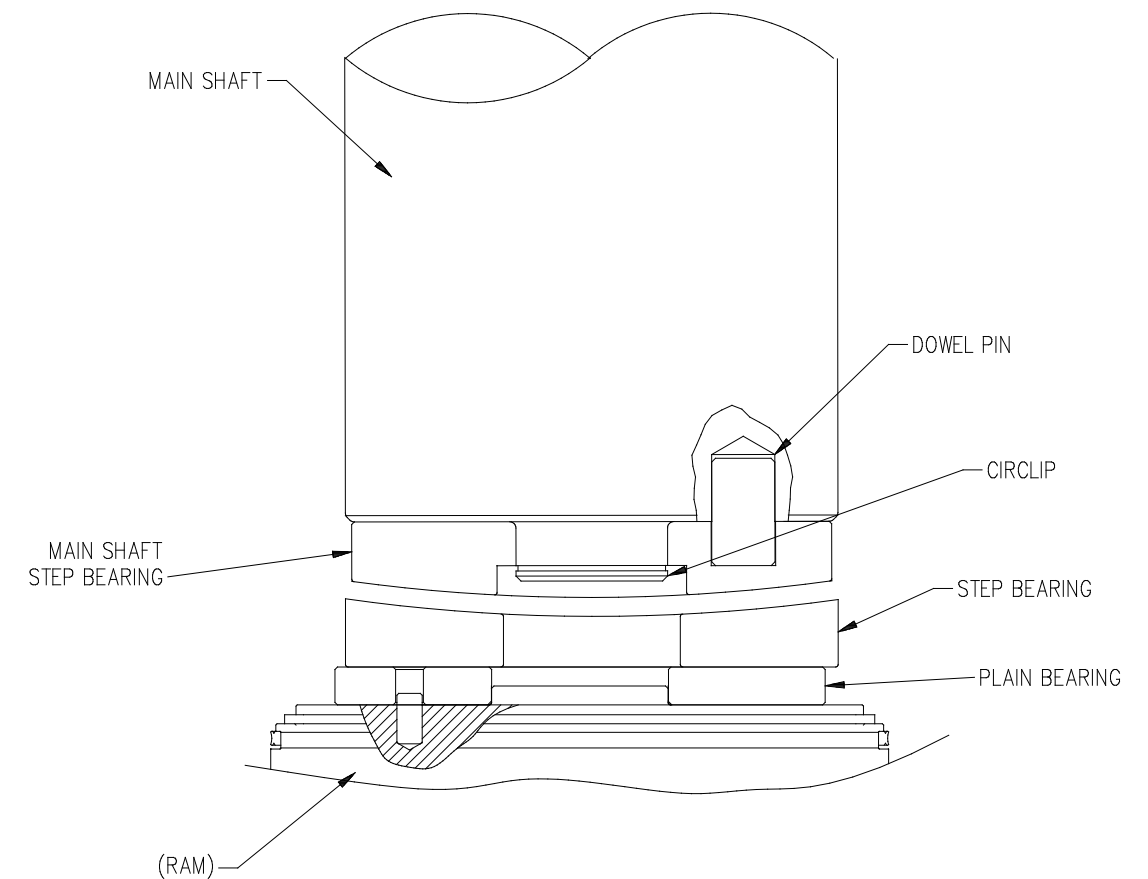

Fig. 6.11.1
3. Remove the circlip from underneath the main shaft step bearing and remove bearing, refit new bearing and refit circlip. Heat the bearing with removal and refitting, 40 to 50°C if necessary. (Fig. 6.11.1).